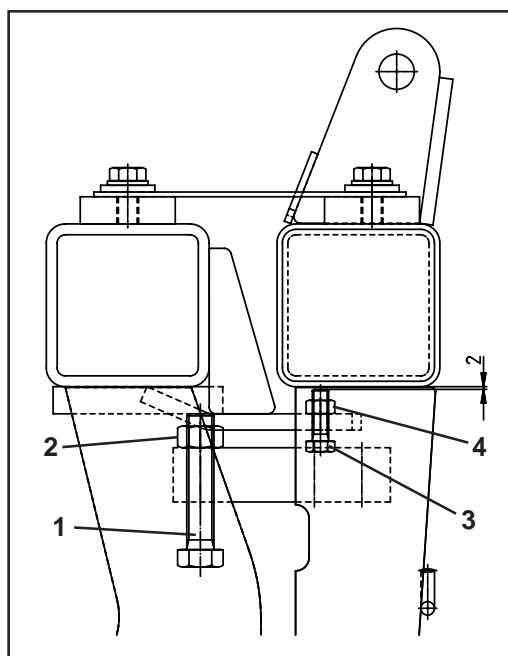

Fig. 9.3
You will find the micrometer gauge (Fig. 9.3/1) in the middle underneath the frame of the spreader inside the weighing cell..
- Slacken the counter nut (Fig. 9.3/2)
- Re-adjust the micrometer gauge (Fig. 9.3/1)
- Retighten the counter nut (Fig. 9.3/2)
Set the locking bolts (Fig. 9.3/3) with a tolerance of 2 mm.
- Slacken the counter nut (Fig. 9.3/4)
- Adjust the locking bolts (Fig. 9.3/3)
- Retighten the counter nut (Fig. 9.3/4)